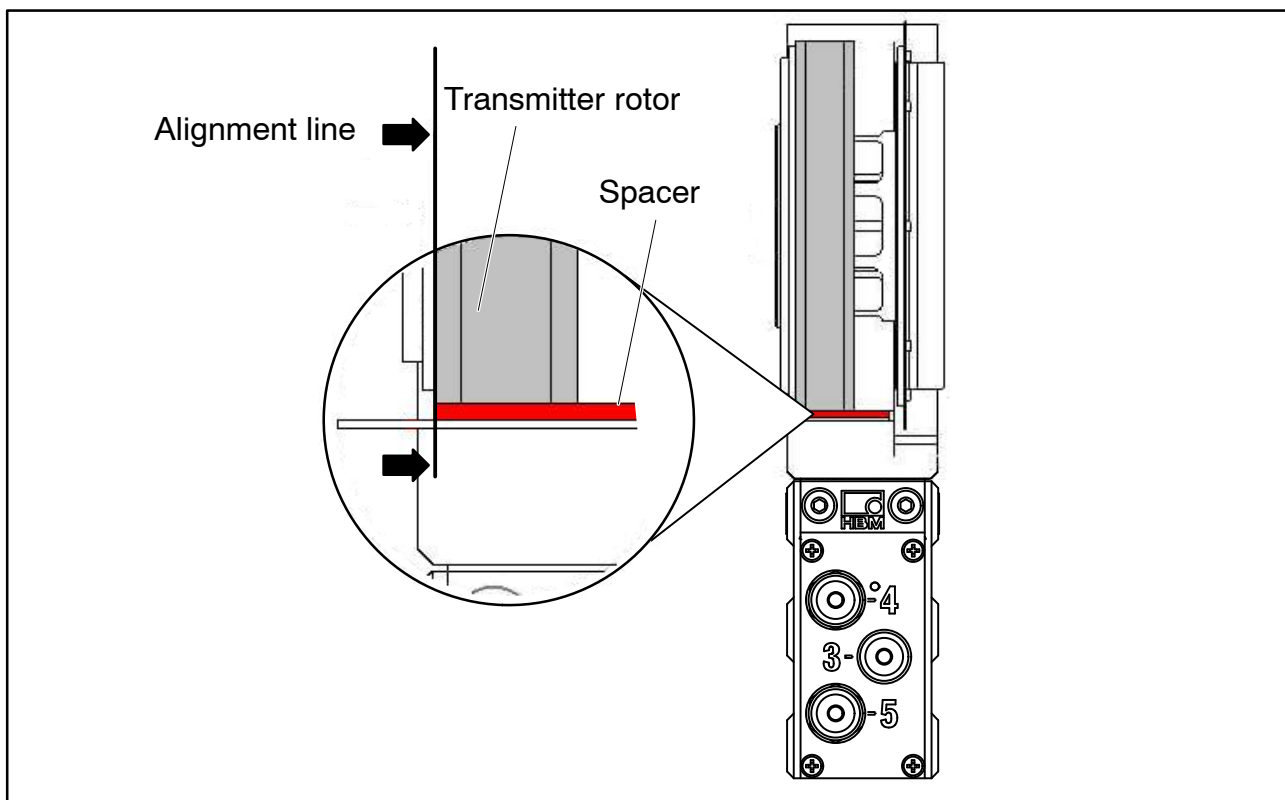

Fig. 6.16: Axial alignment to the rotor
5. Use the spacers to axially align the stator to the rotor. The rotor should be in line with the edge of the red spacer, see Fig. 6.16.